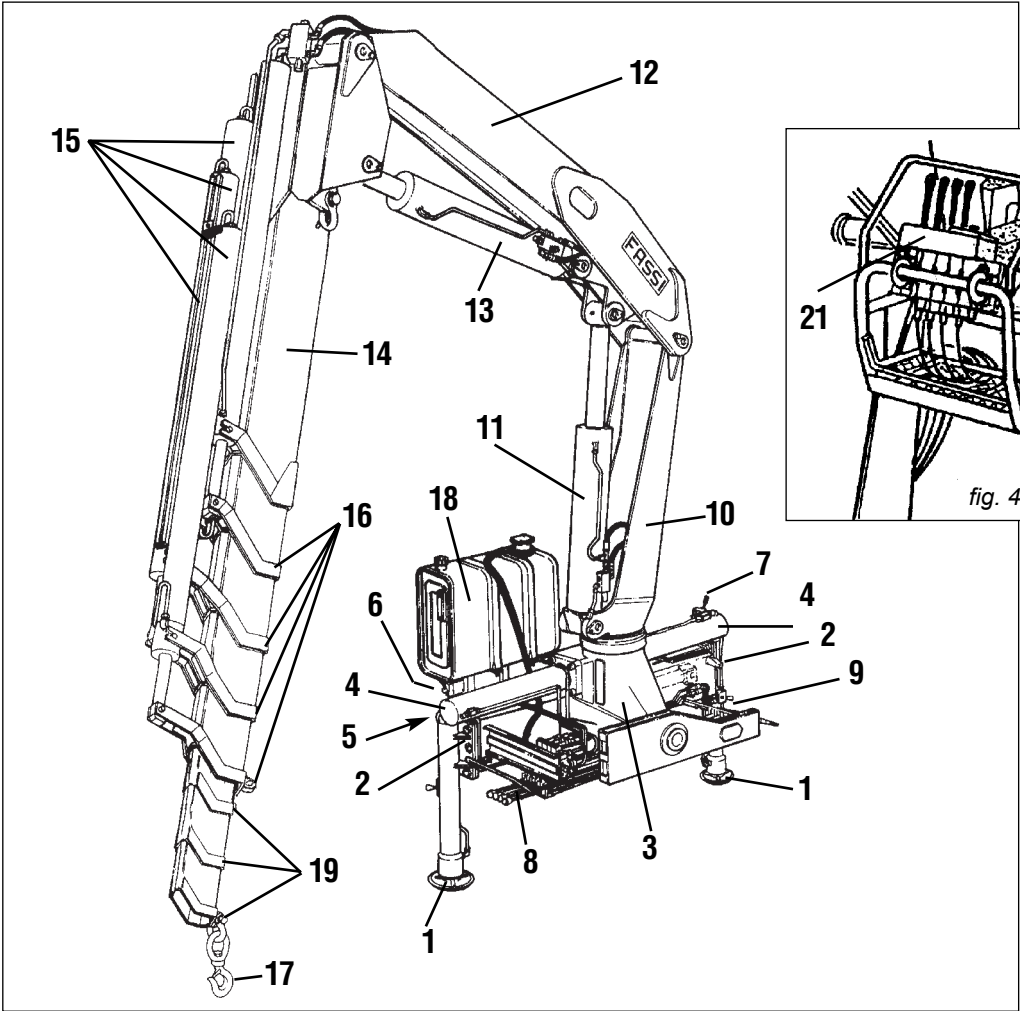

fig. 4
- Version with top seat controls (fig. 4a) for crane by hand cables (optional) (fig. 4)